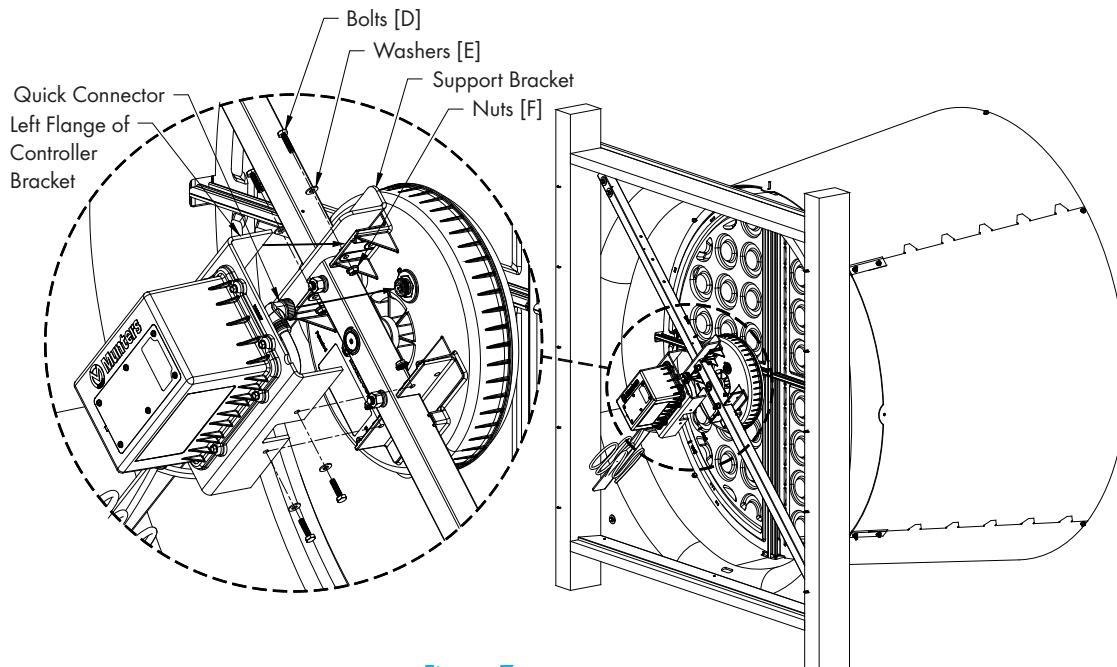

Figure 7
Reconnect the quick connect connector to the motor. Then reposition Munters Drive Controller mounting bracket over strut with the left flange of bracket between Motor flange and Support Bracket and fasten in place with (4) Bolts [D], Washers [E] and Nuts [F]. See Figure 7.